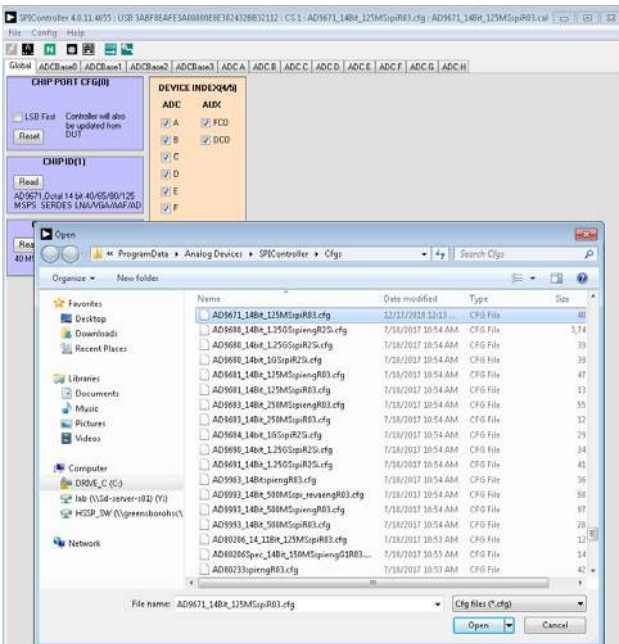

Figure 8. Configuration File Open Dialog Box
8. Start the **SPIController**. Click the **File** menu, and then click **Cfg Open**. A file **Open** dialog box opens. Select the **AD9671** configuration file, **AD9671_14bit_125MSspiR03.cfg** (see Figure 8).